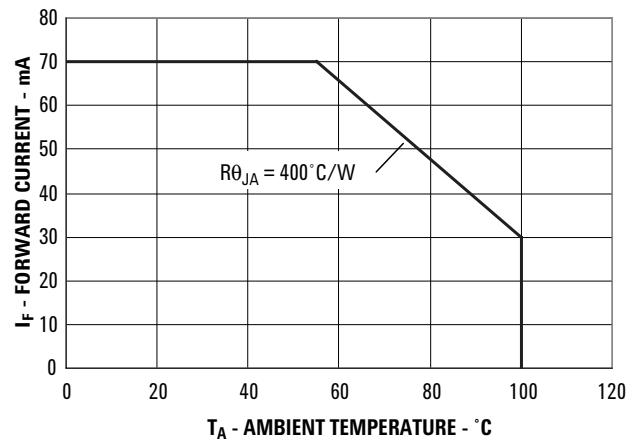

Figure 4. Maximum Forward Current vs Ambient Temperature. Derating Based on T_{JMAX}=130°C.
1. Derate linearly as shown in figure 4.